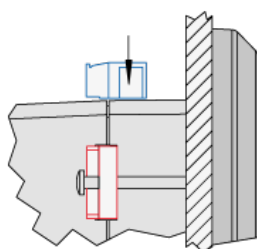

Fig. 13: Reattach terminals
7. ➔ Reattach the wire connection terminal strip (Fig. 13) and secure them with the side screws.